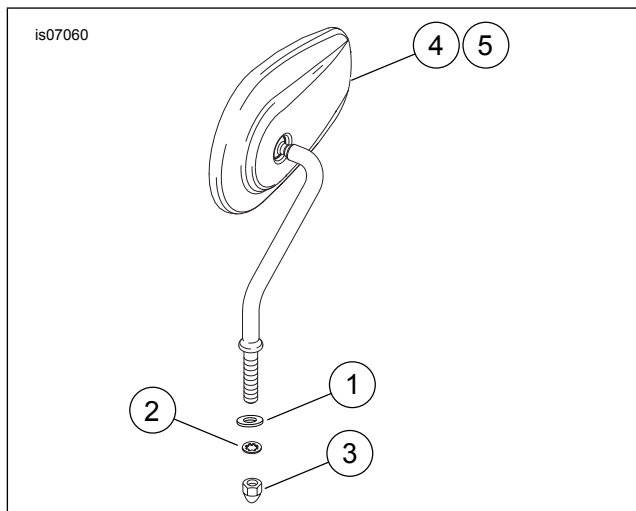

Figure 2. Service Parts: Mirror Hardware
See Figure 2, Table 1 and Table 2.
2. See Figure 2. Install flat washer (1) on mirror stud (top position) for all mirrors except Part No. 91696-05A, 92398-09 and 92410-09.
3. **For motorcycles with turn signals mounted to the underside of the hand lever housings (except 2004 and later XL models):** Secure the left side mirror using only the lockwasher (2) and the acorn nut (3) from the kit.
4. Secure the right side mirror with the lock washer (2) and acorn nut (3) from the kit and the turn signal retainer only.
5. **For motorcycles with turn signals mounted away from the hand lever housings:** Insert the mirror studs into the holes in the hand lever housings, and secure the mirrors with the flat washers (1) in top and bottom position, lockwashers (2) and acorn nuts (3) from the kit.